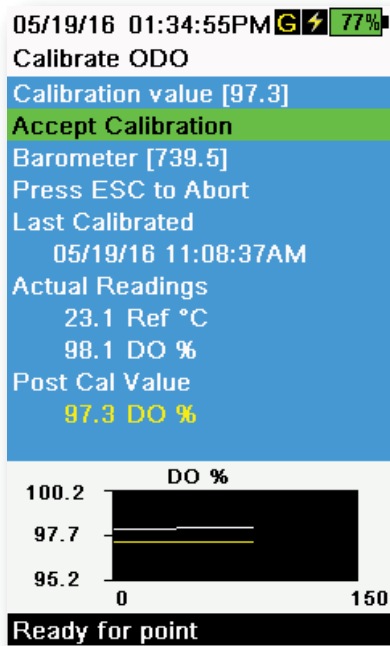

Figure 51 Calibrate ODO %
6. Observe the actual measurement readings for stability (white line on graph shows no significant change for 40 seconds), then select **Accept Calibration** (Figure 51). “Calibration successful!” will be displayed in the message area.